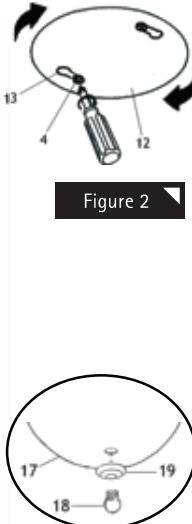

Figure 3
Place the center hole of the GLASS SHADE(17) over the NIPPLE(16) and secure the GLASS SHADE(17) with the FINIAL KNOB(18) or secure the GLASS SHADE(17) and CAP(19) with the FINIAL KNOB(18) (See Fig. 3).